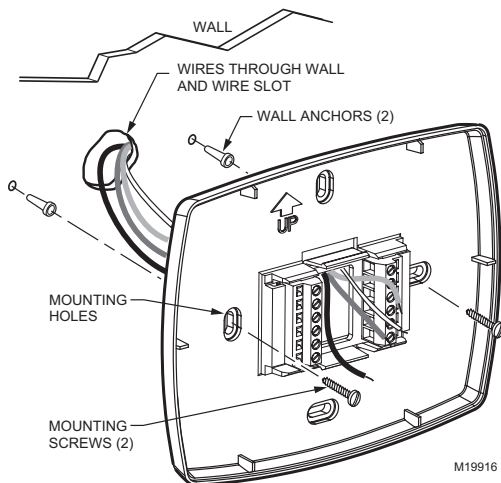

Fig. 6. Mounting wallplate.
4. Position the wallplate over the holes, pulling wires through the wiring opening. See Fig. 6.